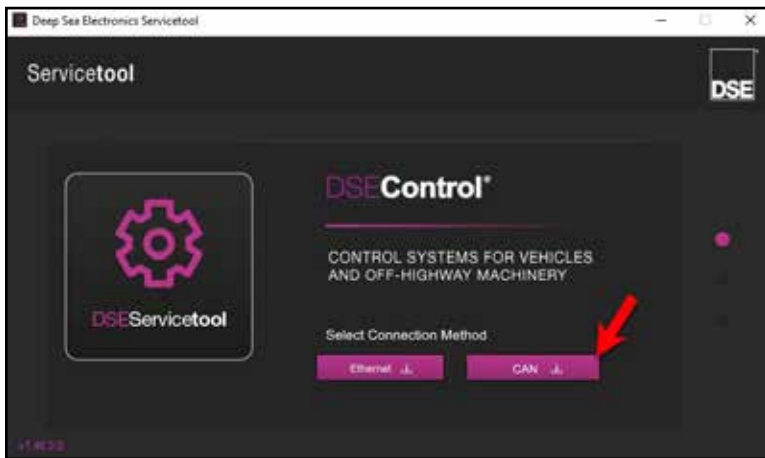

Figure 4
- Click CAN to select the connection mode (Figure 4).